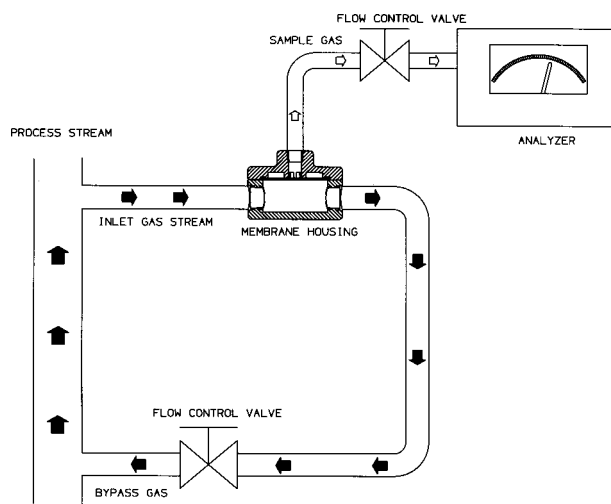

Figure 2
- 2 Do not allow the bypass pressure to fall below the sample pressure (i.e., "blow-down"). This pressure differential could reverse pressurize the membrane and cause it to be dislodged from the support element. A flow control valve or other flow restrictor installed on the bypass line will eliminate the possibility of reverse pressurization (see Figure 2).